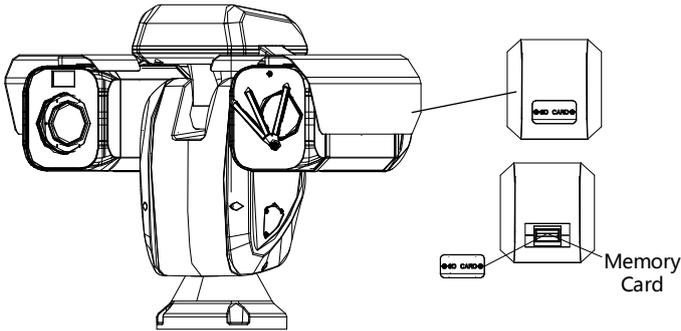

Figure 3-1 Memory Card Installation
2. Insert the memory card into the card slot until it clicks, as shown in Figure 3-1.